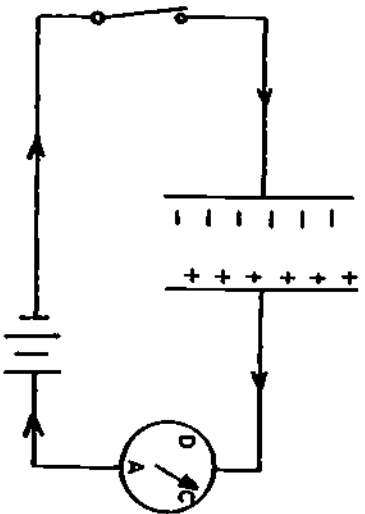
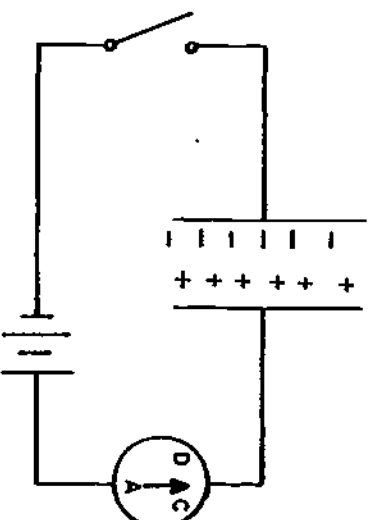
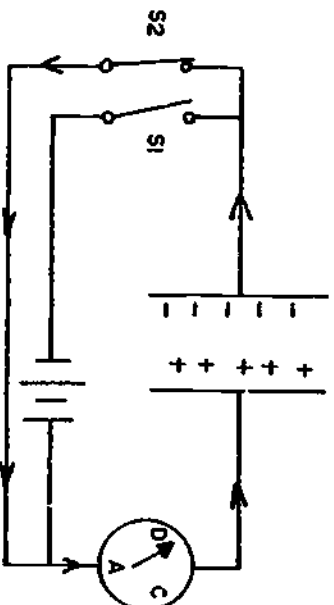

Figure 1.
Figure 2.
Figure 3.
- (1) Position the thousands, hundreds, tens, and units decade dials (fig. 3) to settings that total the estimated
Figure 1 below is a basic capacitive circuit. When the switch is closed, electrons leave the negative side of the battery and are applied to the left plate of the capacitor. This develops a negative charge on the left plate due to the excess electrons. At the same time that the electrons leave the battery, excess electrons are pulled from the right plate of the capacitor by the positive terminal of the battery. This causes the right plate to assume a positive charge due to the lack of electrons on this plate. Current will flow in the circuit in the direction of the arrows until the capacitor has charged to its full capacity. The capacitor will remain at this capacity as shown in figure 2, with the switch opened, until a path for discharge is provided. In figure 3, a path for discharge has been supplied through the closed switch of the circuit to the right plate. This continues until the left and right plates are equal and then the capacitor is considered discharged.